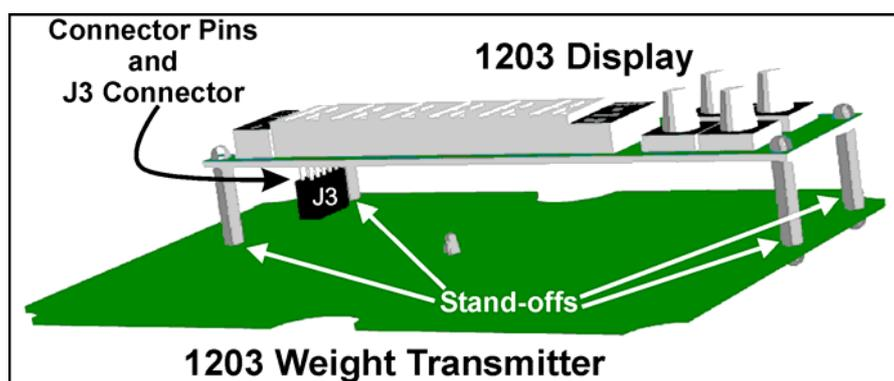

Figure 2: 1203 Display Mounting Illustration
- Insert stand-offs in the **1203 Weight Transmitter** to align with the mounting hole positions as indicated in Figure 2.